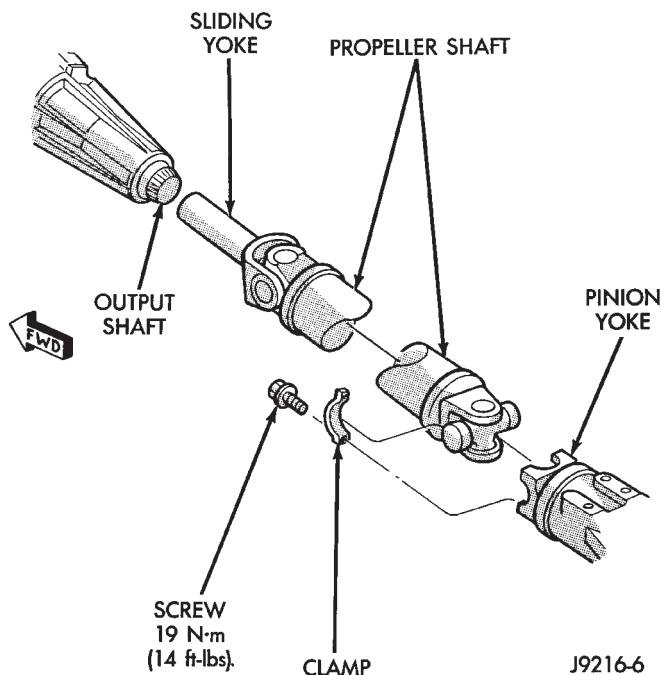

Fig. 13 Rear Propeller Shaft
(2) Shift the transmission and transfer case, if necessary, to their Neutral positions.
(3) Using a suitable marker, mark a line across the axle pinion yoke and the propeller shaft yoke for installation reference.
(4) Remove the bolts holding the universal joint clamps to the pinion yoke.
(5) Slide the slip yoke off of the transmission, or transfer case, output shaft and remove the propeller shaft (Fig. 13).